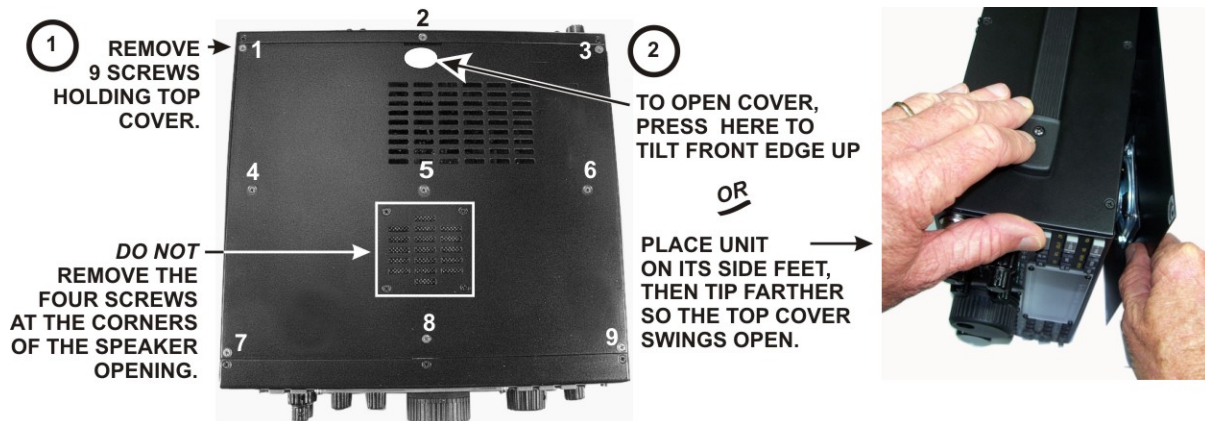

Figure 1. Removing the Top Cover
- Remove the top cover as shown in Figure 1. After the cover is open, lift it gently to reach the speaker wire connector. Unplug the speaker then set the top cover aside in a safe place.
Position the top cover on the K3. Note that the tab on the back center goes under the rear lip of the K3 rear panel. Secure the top cover with the nine 4-40 3/16" (4.8 mm) black flat head screws you removed earlier (see Figure 1).